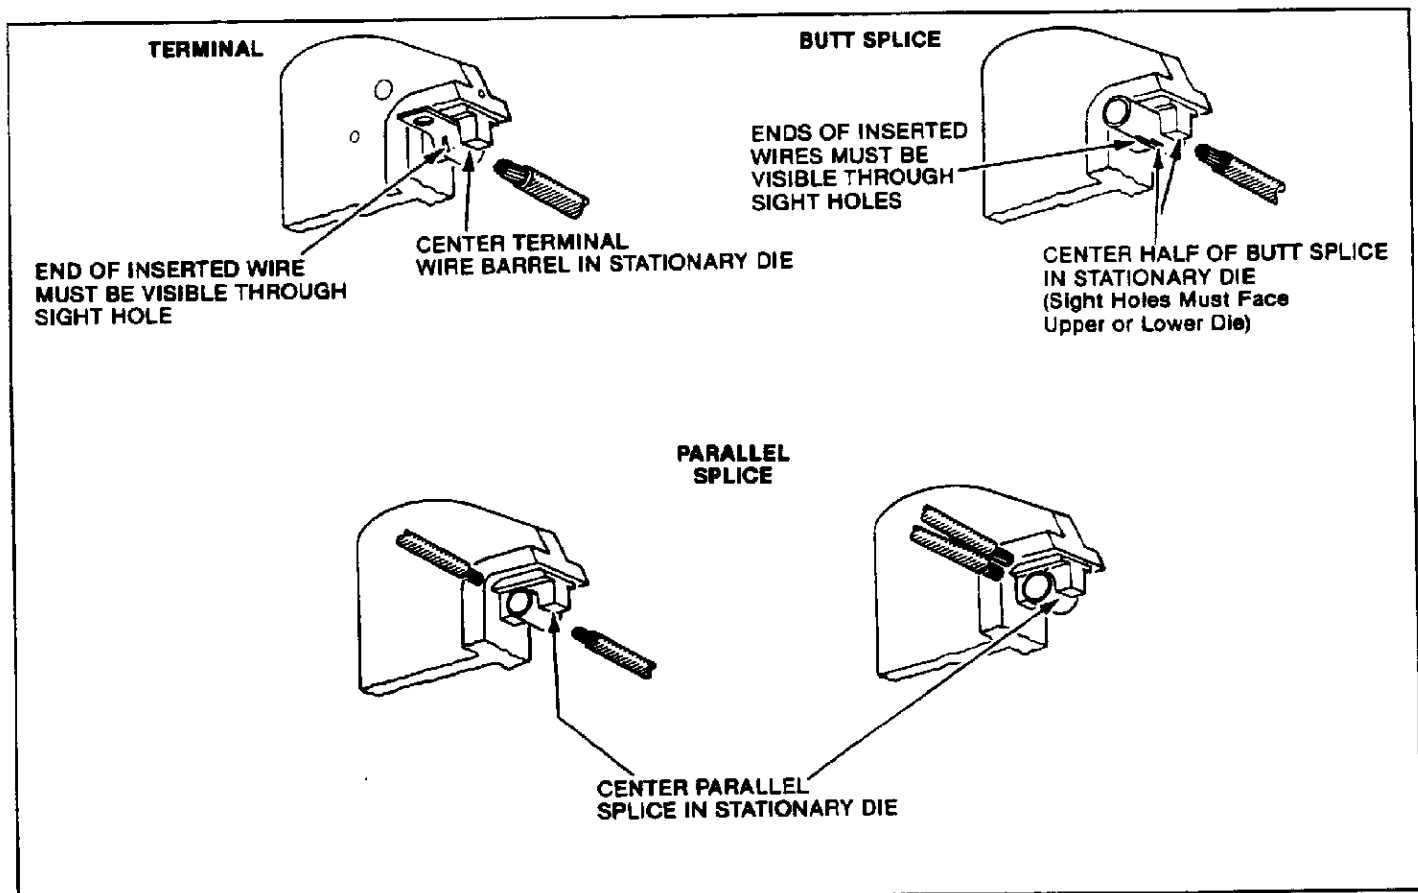

Fig. I-3
2. Center terminal or splice in stationary die as shown in Figure I-3.